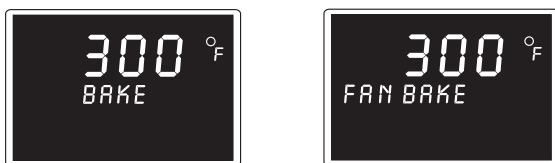

Figure 4
3. The default temperature for FAN BAKE and BAKE functions is 300 °F (This will appear on the Display Window). To change the temperature for Fan Bake and Bake, press the ▲ Up or ▼ Down arrow to select the desired temperature. The temperature will go up or down by 25 °F at a time. (See Figure 4.)
7. When the Timer has counted down to zero (0), the Convection Toaster Oven Broiler will beep and the Operation Light will flash continuously to indicate the program is completed. Open the Glass Door and press STOP. The Operation Light will shut off. Use oven mitts to remove hot pan, Wire Rack and food. Close the Glass Door. Press STOP again to return to the CLOCK function.